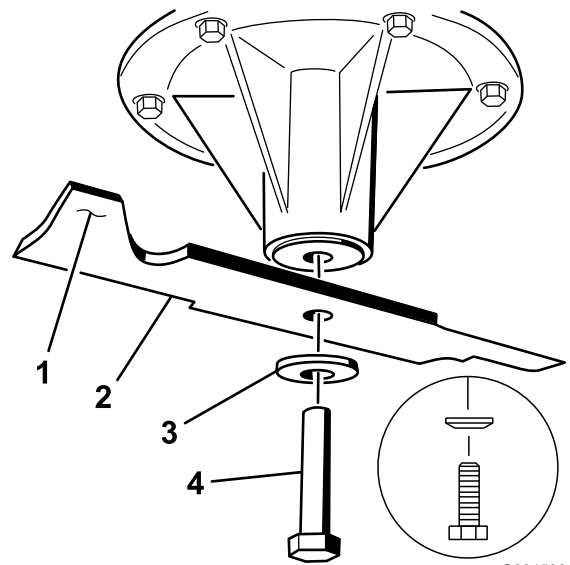

Figure 82
2. Install the blade onto the spindle shaft (Figure 82).
3. Install the curved washer and blade bolt (Figure 82).
Note: The curved washer cone must be installed toward the bolt head (Figure 82).